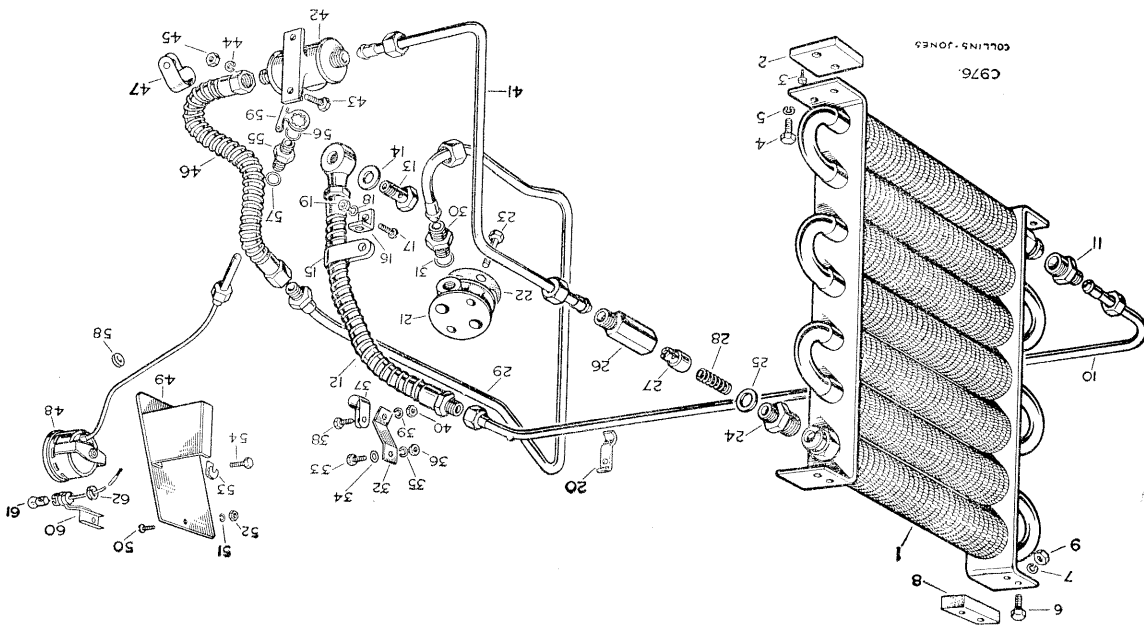

Fig. T-57—Layout of oil cooler—2 1/2 litre Petrol, Diesel models
14. Remove and discard the inner left-hand nut and bolt, securing the grille panel assembly to the top of the radiator, then detach earth clip from the bolt in the top panel, and re-tighten the bolt. Mark out and drill the L.H. side panel as shown in Fig. T-57.
16. Remove the lower securing nut and bolt, then mark out and cut away the section of the R.H. side panel indicated in Fig. T-57. Drill a hole above the cut-out, through the panel and radiator bracket, and refit securing nut and bolt.
23. Mark out and drill the radiator grille panel top, as shown in Fig. T-57.